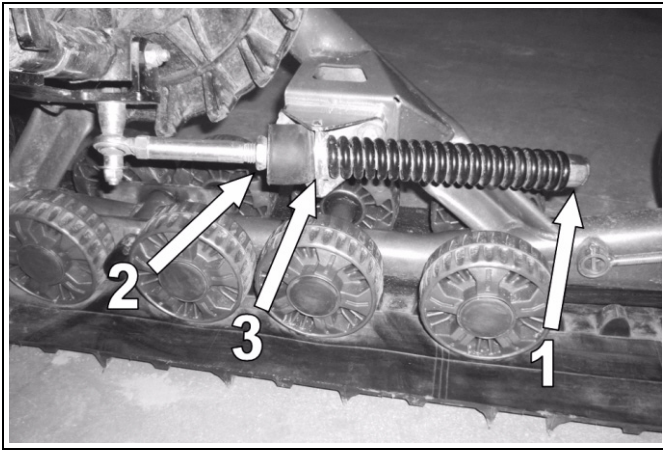

Figure 9
- Loosen the nut (1) compressing the spring of the stabilizing rod (refer to Figure 9).
- Turn the nut (2) until it comes in contact with both rubber damper and bracket (3). Then, compress the rubber damper by turning the nut (2) one turn.
- Turn the nut (1) until it comes in contact with the spring. Then compress the spring by turning this nut 4 turns.